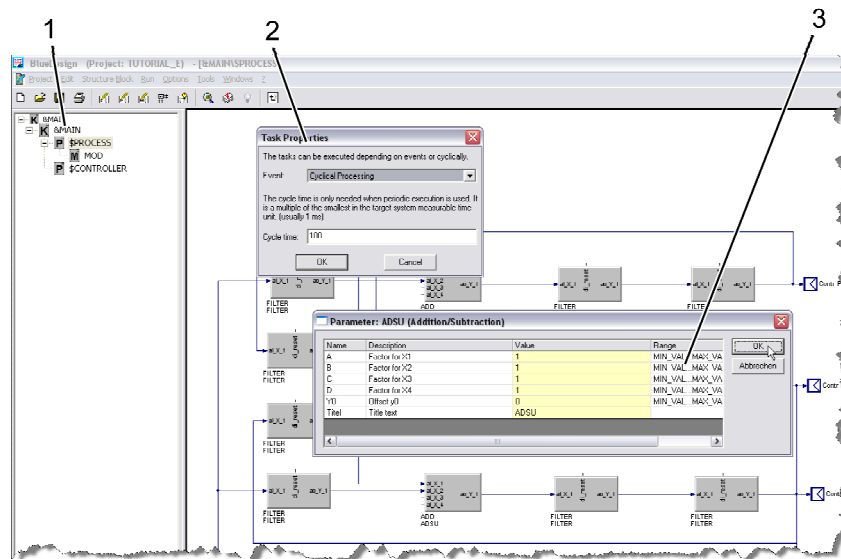

Fig. 114: Example: Run mode
- Run mode:** In this mode, parameters can be assigned for each copy ("Instance") of a block (Example: Fig. 114/ 3). In addition, the computing time can that is allocated to each sub-application ("Task") can be specified (Example: Fig. 114/2). Basic editing of the projects is not possible in this mode. Instead of the project overview of the edit mode, in which the project is displayed according to categories, the logical structure of the application is displayed in run mode (Fig. 114/1). Components that are called (program blocks, macros, etc.) are displayed *below* the calling component.